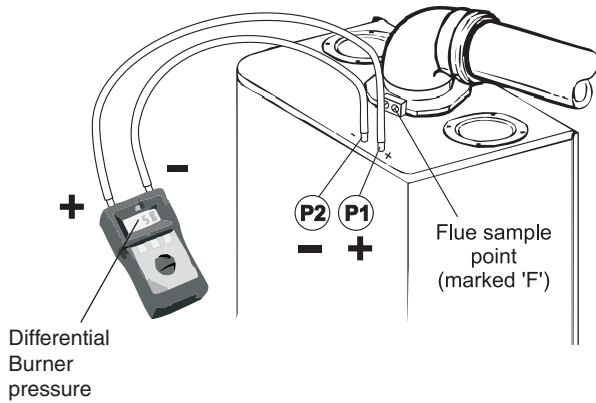

Fig. 5.2
5.5 CHECK THE BURNER PRESSURES - Figs. 5.2 and 5.3
Turn the boiler off. Remove the two pressure test point screws at the top of the boiler and connect a differential pressure gauge to P1 and P2 as shown in Fig 5.2. Allow the boiler to run for 10 minutes and check the differential burner pressures.
Connect the flue gas analyser to the flue gas sampling point as shown in Fig. 5.2.
Notes: 1. Prior to servicing, it is recommended that a flue gas analyser is used to measure the performance of the boiler (refer to Fig. 5.2 for the position of the flue sampling point). If the CO/CO₂ ratio measured is greater than 0.003 **or** when other checks and comments from the customer have indicated that there may be problems, cleaning of the heat exchanger will be necessary. All Sections 6.1, 6.2, 6.3 and 6.4 **must** be carried out. Repeat the flue gas analyser test after reassembling the boiler and check that the CO/CO₂ ratio is less than 0.003.